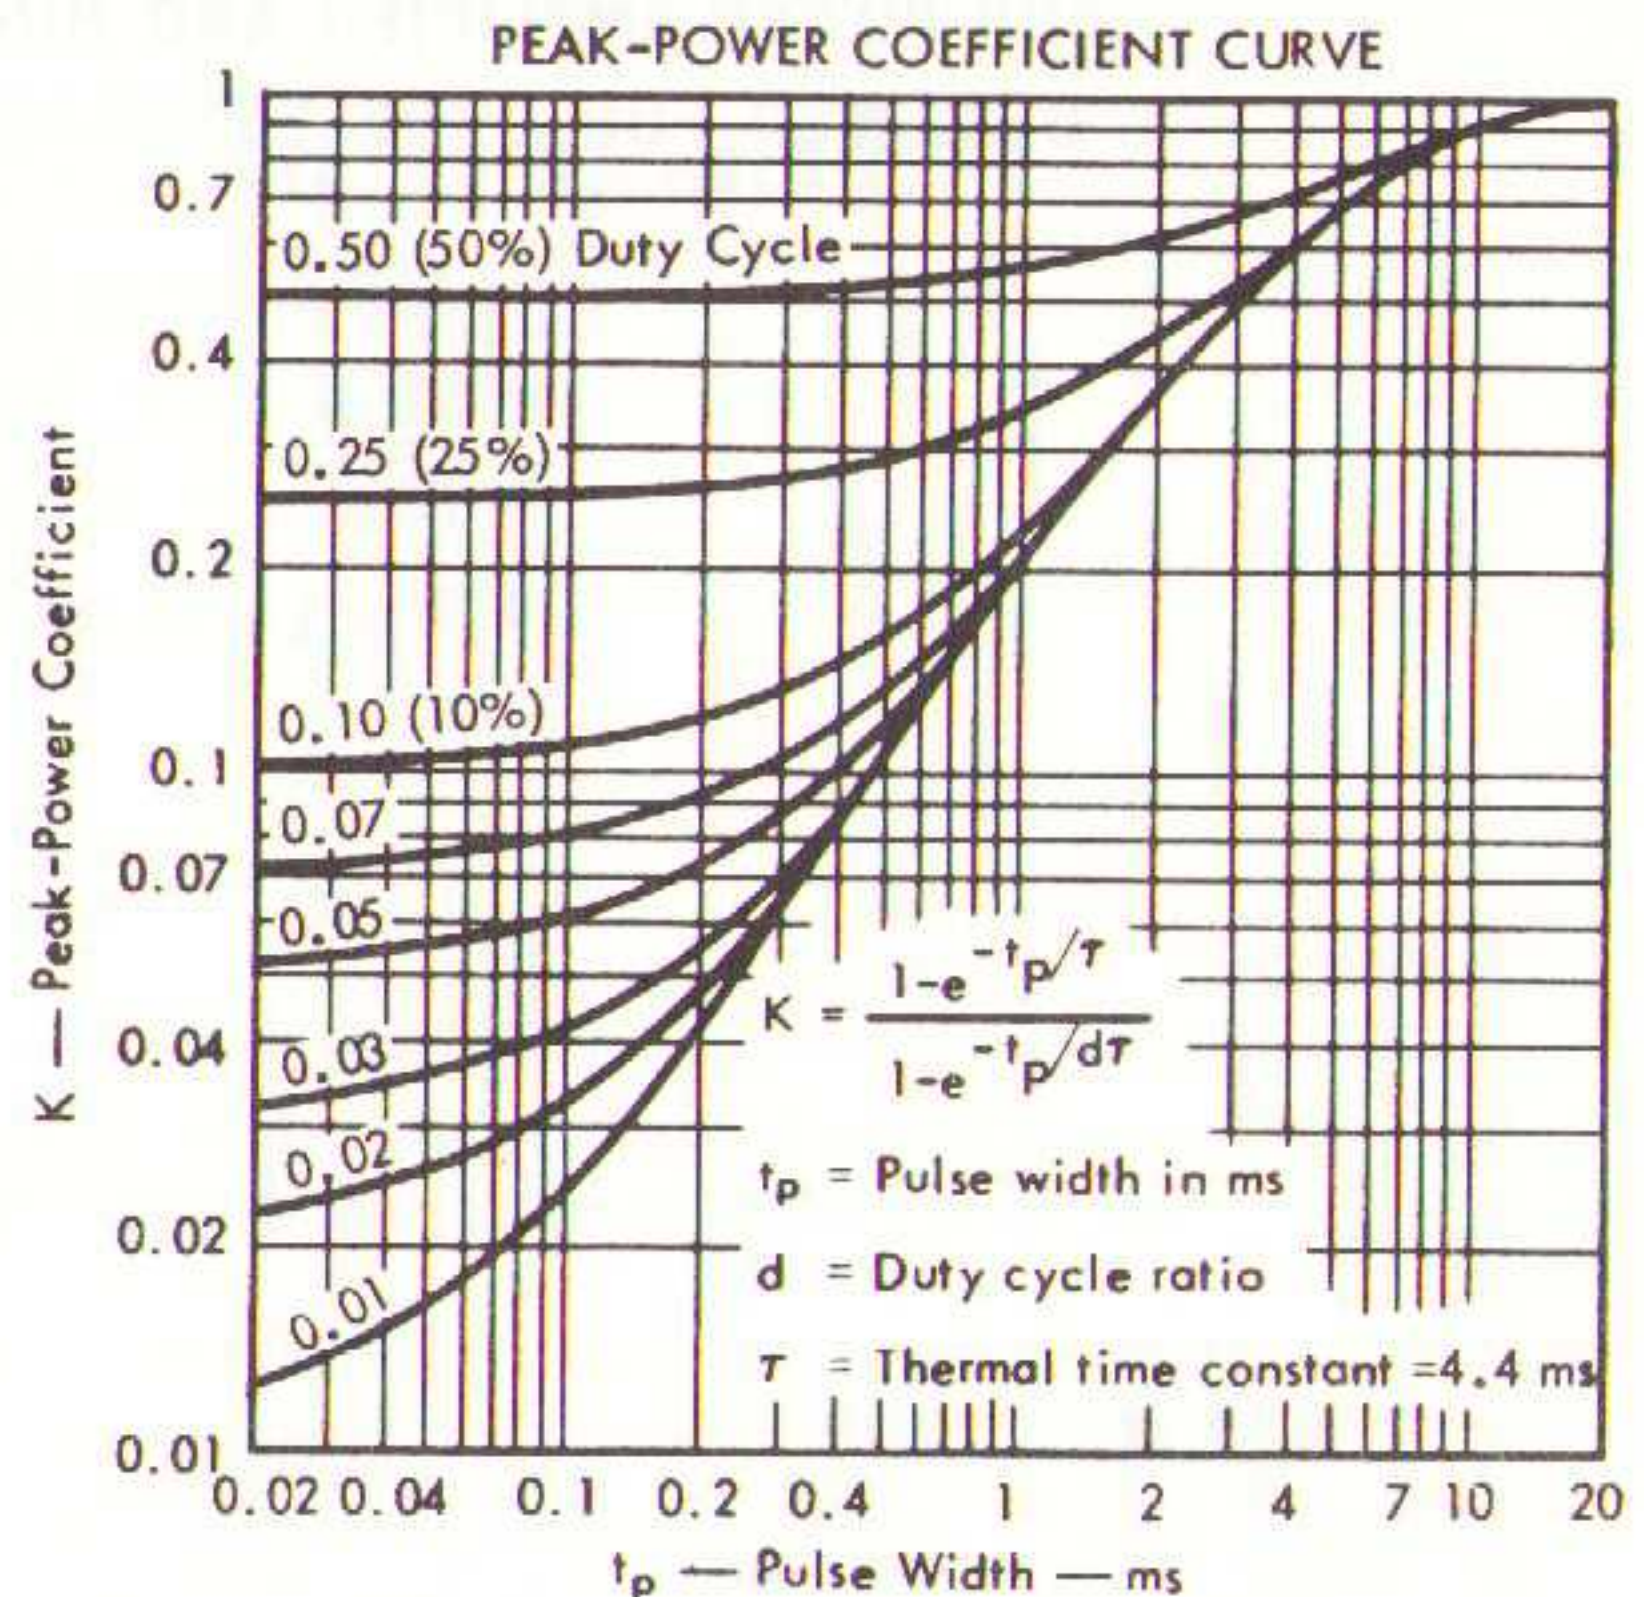

FIGURE 8
From figure 8, Peak-Power Coefficient
*Safe Operating Region at (or below) 25°C Case Temperature	See Figures 8 and 9